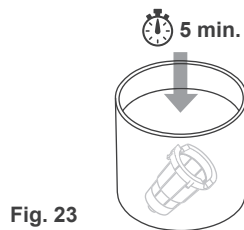

Fig. 23
2. Immerse the Red Cup Holder in to hot water for five (5) minutes (Fig. 23), and rinse with warm water.